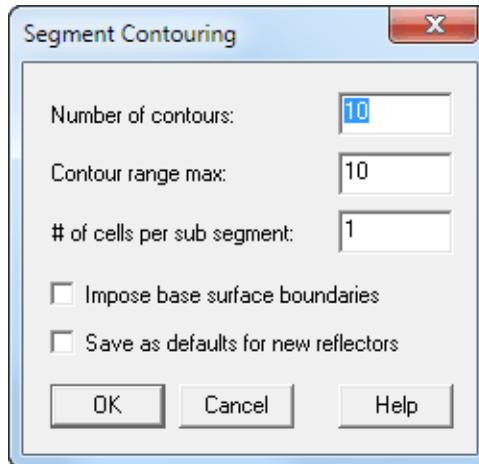

Figure 1.14 Setting segment contouring
- Click **Segment, Contouring** to set the segment contouring properties, complete the dialog box as shown in Figure 1.14, and click **OK**.